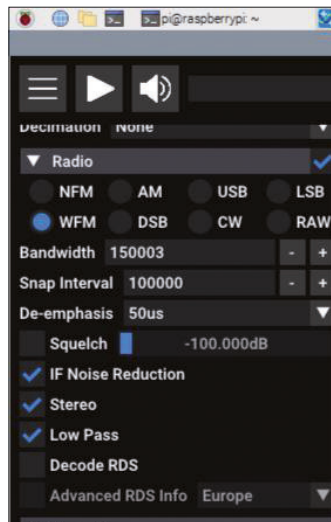

Figure 9.6: Select Stereo, etc.
- If required, select **Stereo, Low Pass** (filter) etc. (Figure 9.6).